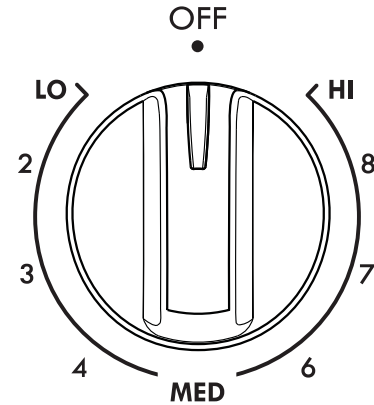

Figure 6: Surface control knob
2. Push in and turn the surface control knob in either direction to the desired setting (See Figure 6).
- The surface control knobs do not have to be set exactly on a particular spot (See Figure 6). Use the graphics provided as a guide and adjust the control knob as needed. Refer to Table 1 for suggested power level settings.